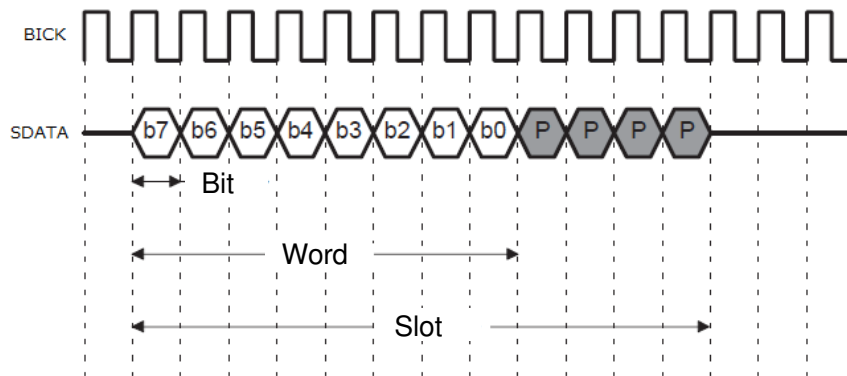

Figure 25. Bit, Word and Slot Definitions
**Word:** It is a group of multiple bits that composes transmitting data between external devices and the AK7735. Figure 25 shows an example of a word consists of eight bits.
**Slot:** It is composed of a word and adequate additional bits for interfacing to an external device. In Figure 25, the audio data is an 8-bit valid data and a 12-bit slot needs additional four zeroes to satisfy an interface protocol of the external device.
If the word length is shorter than the slot length, the data alignment of the word will be the beginning of the slot (MSB justified) or end of the slot (LSB justified). Figure 25 shows an example of MSB justified format.